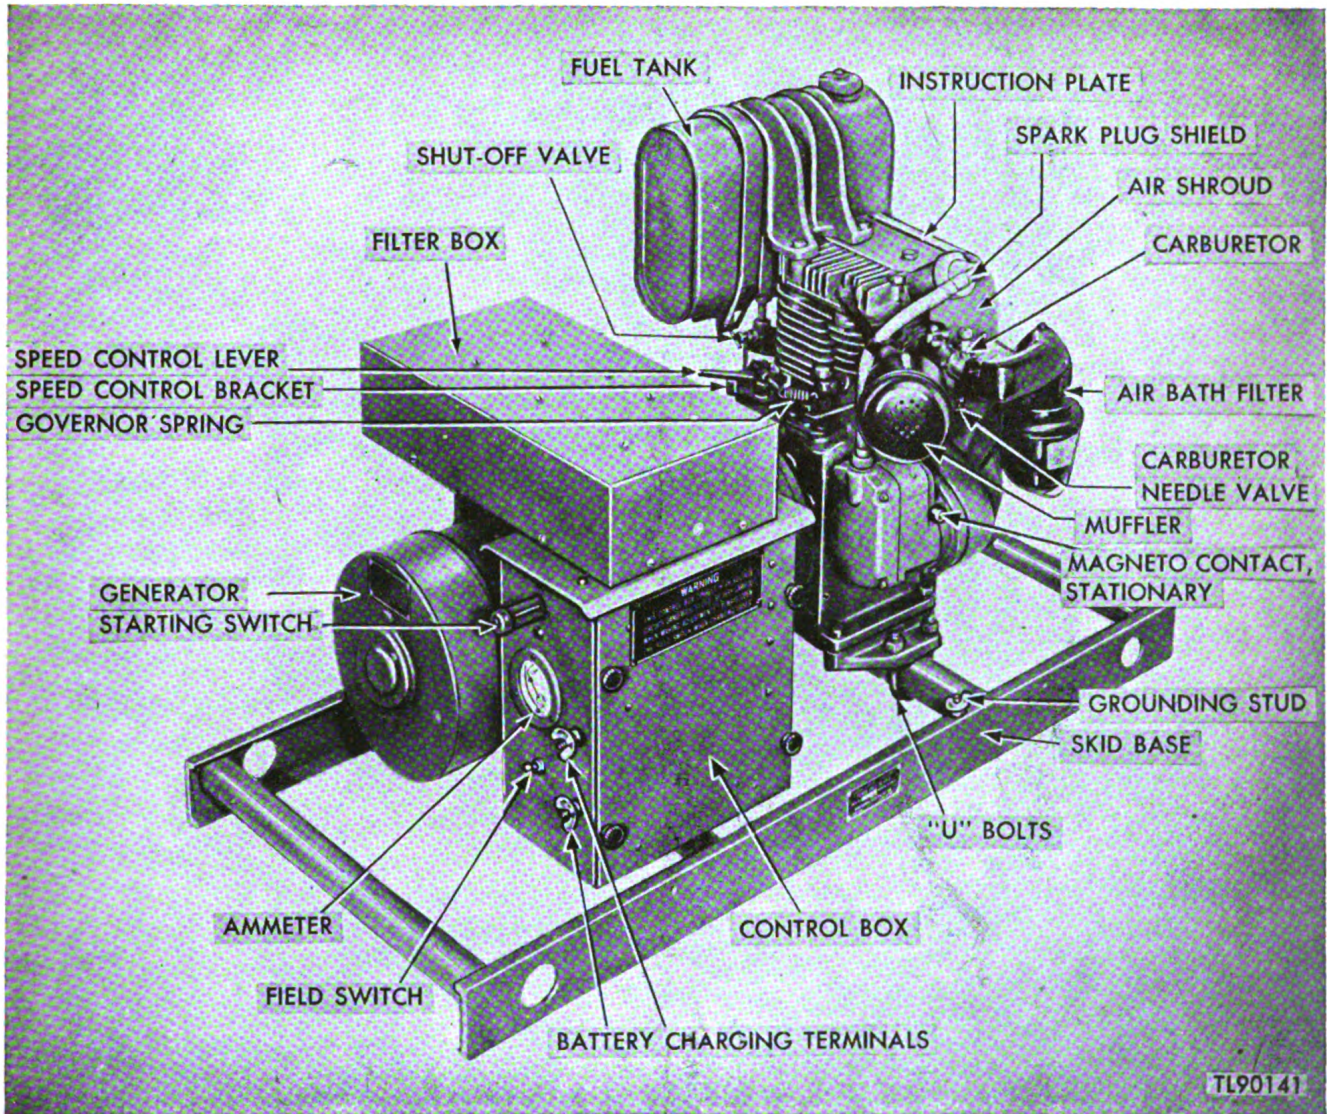

Figure 10. Power Unit PE-49-D from control box side.
horsepower at 2,700 rpm. Fuel is supplied from a 1-gallon fuel tank mounted on cast-iron brackets at one side of the cylinder head. The unit will operate for approximately 3 hours at full load on one filling of the fuel tank. The carburetor is of the float-feed, adjustable-jet type to which fuel is fed from the fuel tank through a conventional fuel strainer. Ignition is provided by a high-tension, radio-shielded magneto (fig. 10) with impulse coupling to facilitate starting at low cranking speeds. The engine is lubricated by a plunger-type oil pump and oil splasher. The engine speed is maintained at approximately 2,700 rpm by a centrifugal flyweight governor. A 12-volt storage battery may be connected to the wing terminals on the control box through suitable cables for electrical starting.
c. CONTROL BOX ON POWER UNIT PE-49-D (fig. 10). A starting switch, ammeter, field switch, and two battery-charging binding posts are located on the outside at one end of the box. A label showing the complete circuits of the controls, the filter, and the generator is located inside the front cover. Spare fuses are also car-